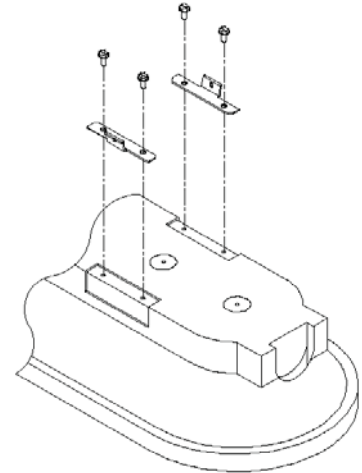

Fig 14
2. Install brackets on each end of the fixture as shown in Fig 14 (maximum 25 inch-pounds torque on screws).